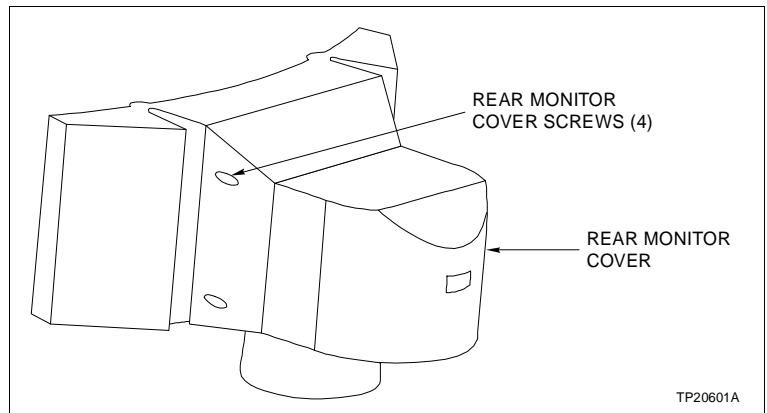

Figure PR66-1. Rear Monitor Cover
2. Use the Phillips head screwdriver to remove the four rear monitor cover screws (Fig. PR66-1).